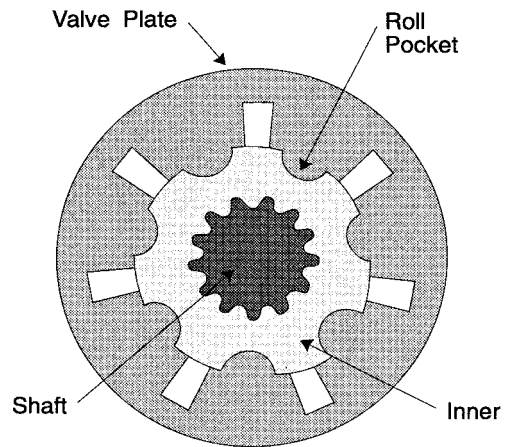
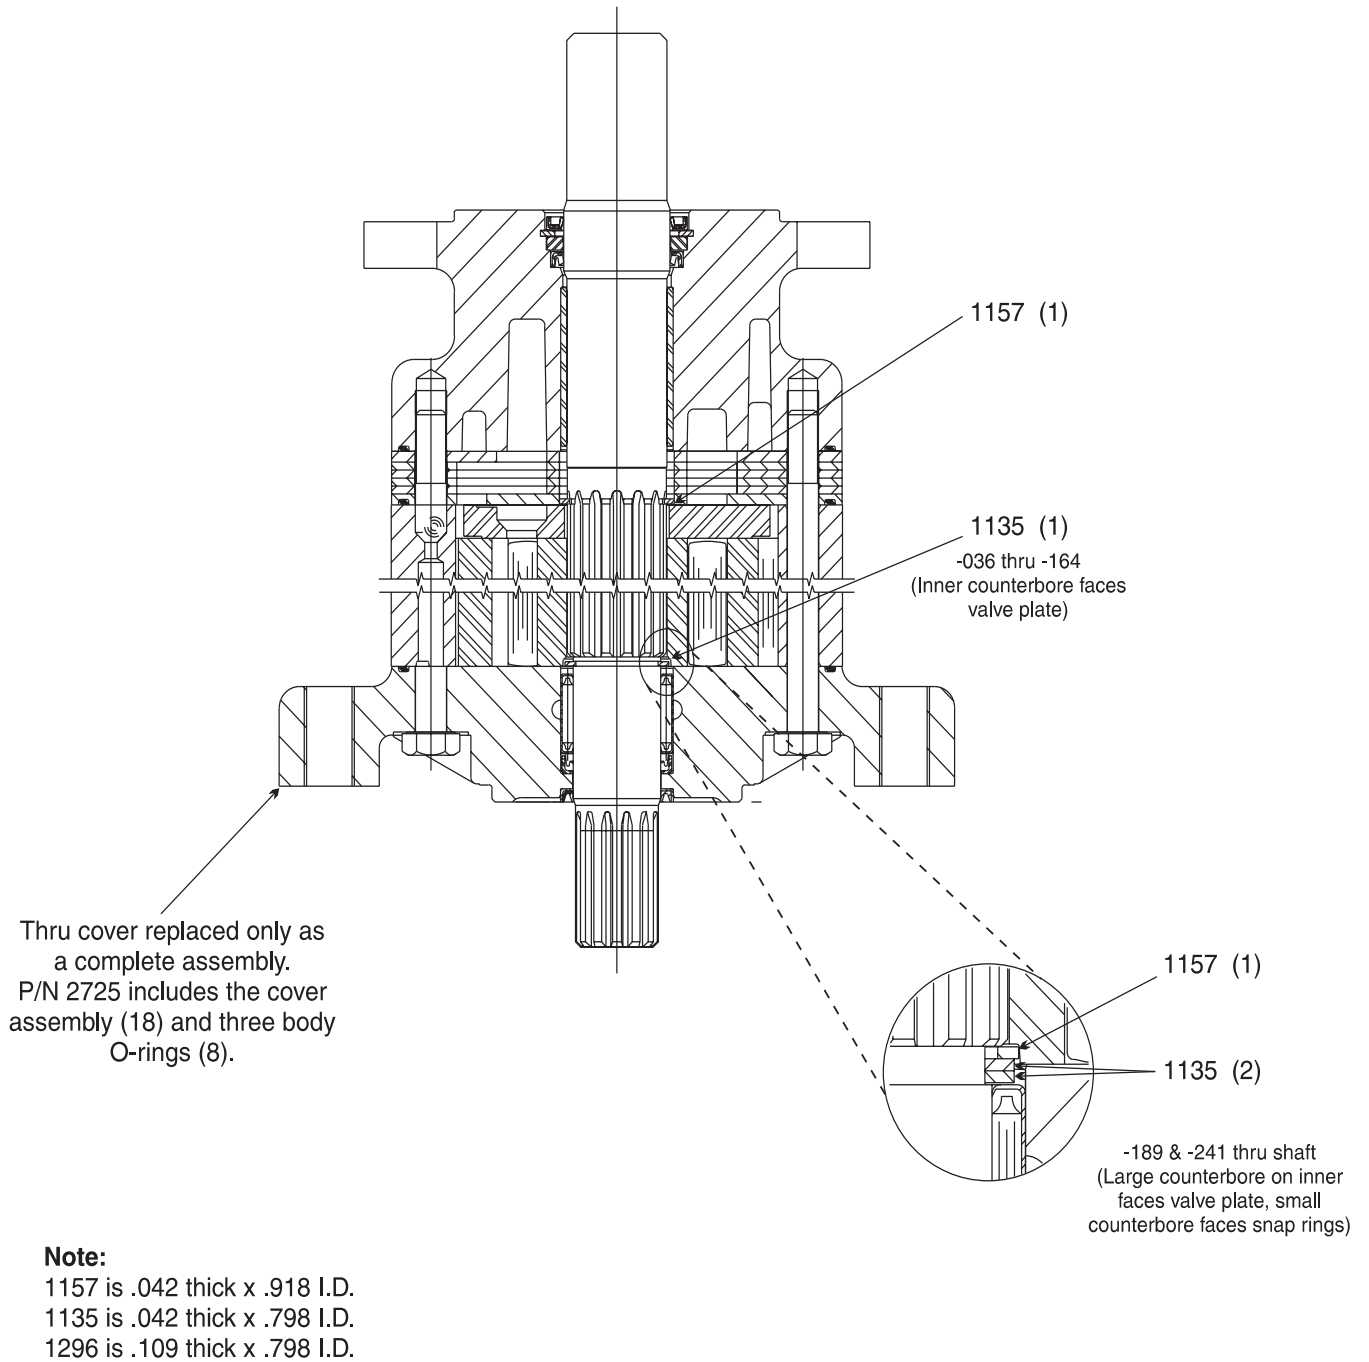

Fig. 1
Fig. 3
- Indicates parts used only in thru-shaft motors. See Figure 3.
6. Remove and discard the square ring seal (8) from the body/bearing assembly.
7. Remove the snap ring (7), the inner (6.4), the rotary valve (4), the commutator plate (22) and pull the shaft (12) out from the front of the motor. For thru shaft see figure 3.
8. Inspect the IGR™ inner components (6.4), the rotary valve (4), and the shaft (12) for wear or other damage. The shaft should have smooth polished surfaces in the bearing and seal areas. If any of these components are damaged, the snap ring (7) must be removed and discarded and the appropriate components replaced.
9. Pry out the dust seal (1) to expose the snap ring (21). The lip seal (3) and back-up ring (2) can be removed after the snap ring is removed using snap ring pliers. Remove the back up and pry the seal out using a blunt object. Do not use a sharp object that might scratch the bore and cause a leak.
2. Install a new lip seal (3) by pressing it into the bore from the outside of the body with the lip pointed towards the inside of the body. Insure the seal is seated on the shoulder of the body.
4. Install the dust seal (1) from the front of the body/bearing assembly. Seat the back side (flat side) of the dust seal against the snap ring.
6. Mount the body (15) in a vise bolt side up. Place a square ring seal in the body groove. Assemble the commutator plate (2) on the body with the 16 equally spaced slots facing upwards.
7. Check the output shaft end for burrs and scratches, de-burr if necessary. The shaft must be smooth so it will not cut the lip seal when installed through the seal. Lubricate the shaft and lip seal and install the shaft from the outside of the body through the seal. While holding the shaft from under the motor, install the valve plate and inner (6.4) as shown in Fig 1. Using snap ring pliers, install snap ring (7). Be sure the snap ring is tight on the shaft. For thru shaft see figure 3.
9. Lightly oil the square ring seal (8) and place it in the commutator plate (22) o-ring groove.
10. Place the check balls (5) over the two 1/8 inch diameter holes on the commutator plate (22). Be sure the check balls do not fall into the (bolt) holes.
11. Place the locating ring (6.1) onto the body/bearing assembly with the check ball holes facing downward over the balls. Align the eight bolt holes in the locating ring with the eight holes in the body (15). (The bolt holes will align in only one position). **Note:** Be sure not to dislodge the body/bearing assembly (15) square ring seal (8) while positioning the locating ring (6.1).
13. Place the other lightly oiled square ring seal (8) into the groove in the cover and place the cover over the shaft end and align the bolt holes. If the motor is equipped with the optional thru-shaft, oil the seal in the cover and the shaft and install the cover gently while rotating it.